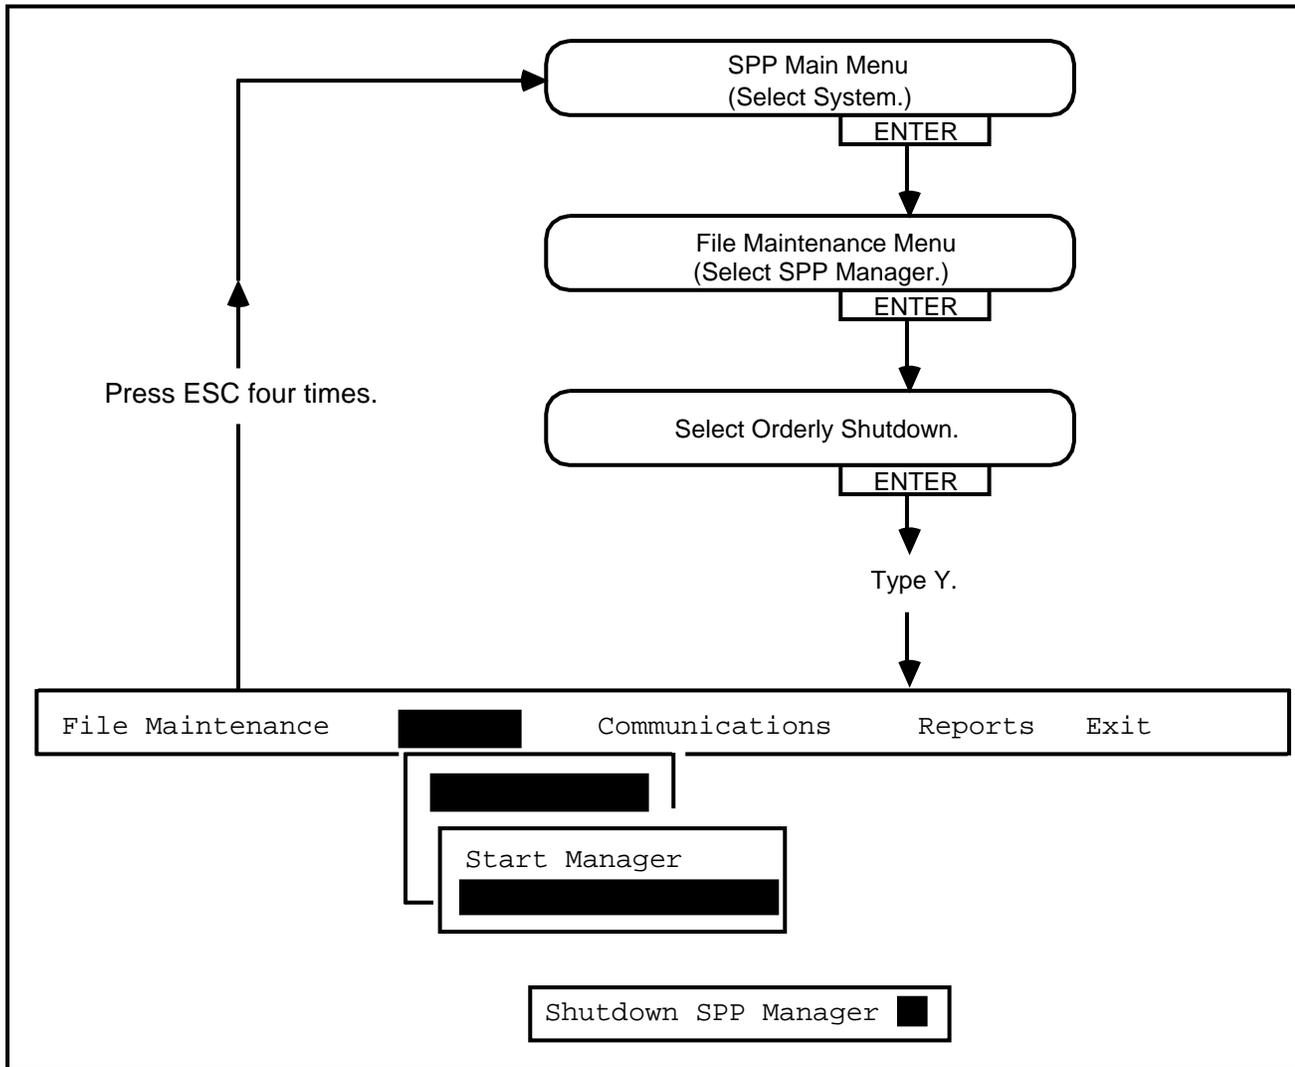

Fig. 4-2
4.05 The Orderly Shutdown menu (see Fig. 4-2), disables all SPP communications. When orderly shutdown is activated, the SPP puts the message SYSTEM SHUTTING DOWN on the terminals of all users. No new communications can be initiated; listening is suspended immediately on all ports that are not currently engaged with a poll; and as active polling is completed on other ports, those ports are also suspended. To shut down the SPP manager, proceed as follows: